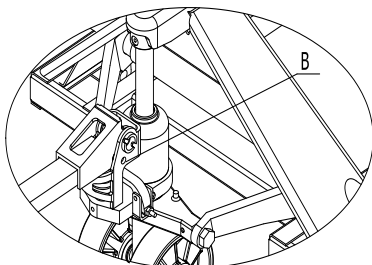

Fig. 3
- 3.6 Refer to Fig.3, raise handle 8 to a horizontal position, pull out pin B and keep it appropriately to be used for Handle replacement next time. The assembling is completed.